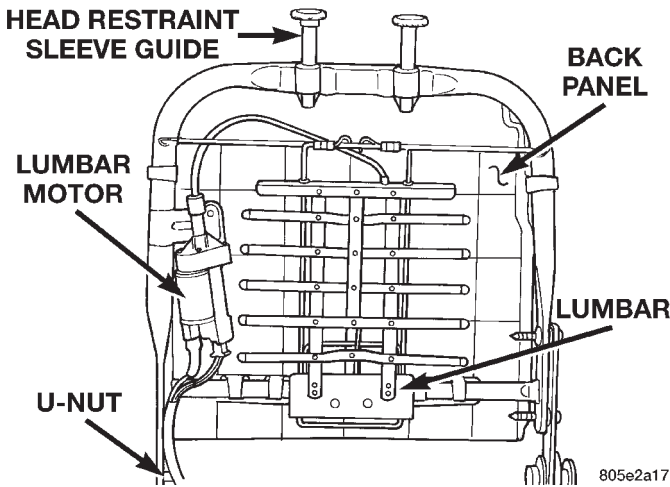

Fig. 7 Power Lumbar Adjuster and Motor
(3) Replace the seat back frame assembly, which includes the lumbar adjuster and motor (Fig. 7).